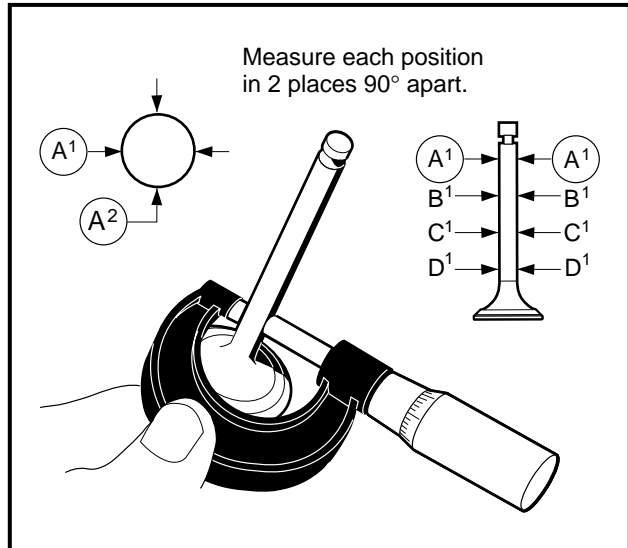

Figure 13-31 Measure Valve Stem Diameter
1. Using a micrometer, measure the diameter of the stem at several points along its length (**Figure 13-31, Page 13-18**).